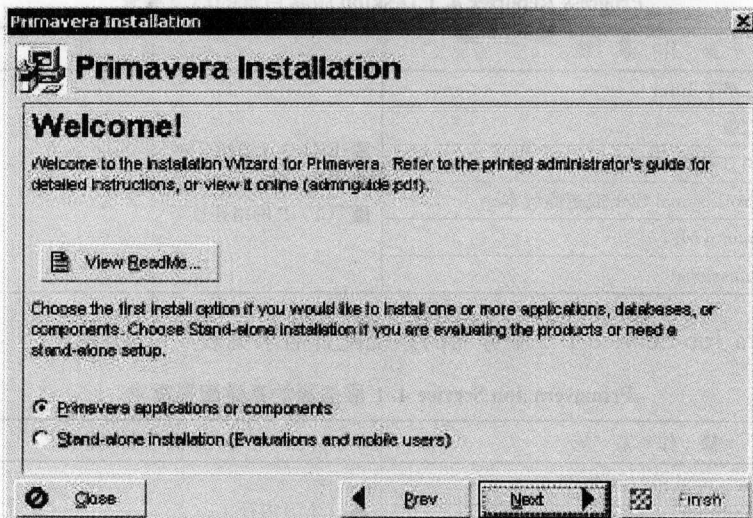

图 1-4 选择 "Primavera application or components"
- 3) 请选择 "Primavera application or components", 如图 1-4 所示。